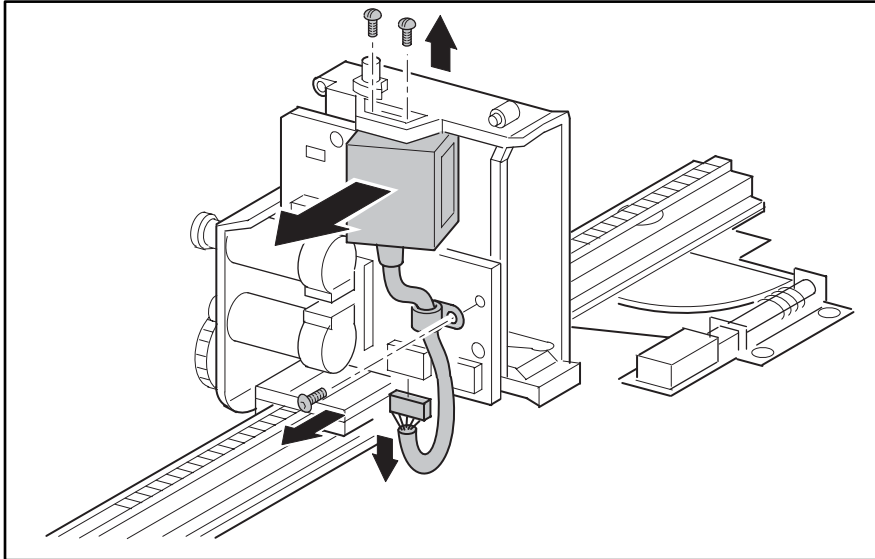

Figure 3–47: Removing the barcode reader
4. Remove the cable at J5 on the shuttle assembly board (see Figure 3–47).
5. Remove the two screws at the top that secures the barcode reader to the shuttle assembly (see Figure 3–47).